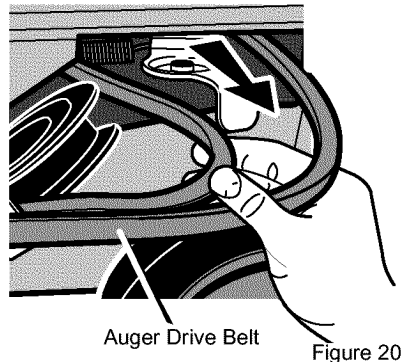

Figure 20
6. Remove the **auger drive belt** from the engine pulley and pull through side of motor box (See Figure 20).